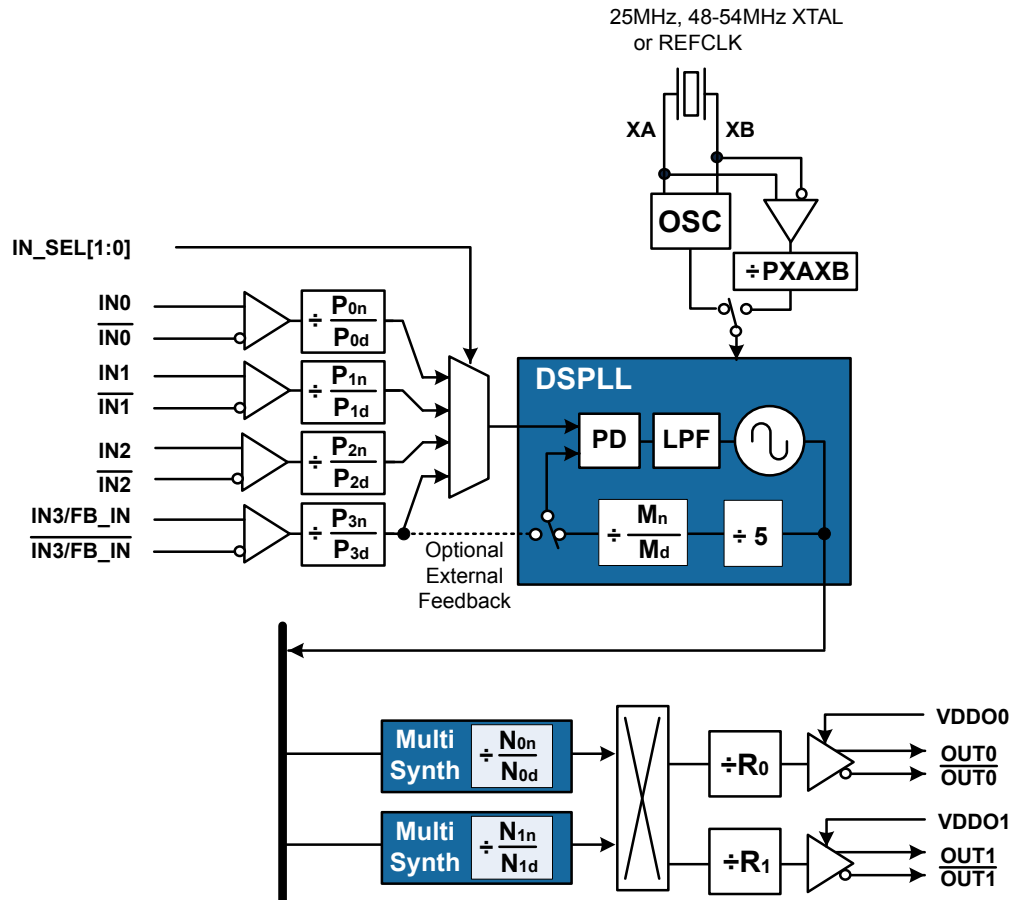

Figure 3.1. Si5342 DSPLL and Multisynth System Flow Diagram
The DSPLL is responsible for input frequency translation, jitter attenuation and wander filtering. Fractional input dividers (P_{xn}/P_{xd}) allow the DSPLL to perform hitless switching between input clocks (IN_x) that are fractionally related. Input switching is controlled manually or automatically using an internal state machine. The oscillator circuit (OSC) provides a frequency reference which determines output frequency stability and accuracy while the device is in free-run or holdover mode. Note that a XTAL (or suitable XO reference on XA/XB) is always required and is the jitter reference for the device. The high-performance MultiSynth dividers (N_{xn}/N_{xd}) generate integer or fractionally related output frequencies for the output stage. A crosspoint switch connects any of the MultiSynth generated frequencies to any of the outputs. A single MultiSynth output can connect to two or more output drivers. Additional integer division (R) determines the final output frequency as shown in Figure 3.1 Si5342 DSPLL and Multisynth System Flow Diagram on page 9.